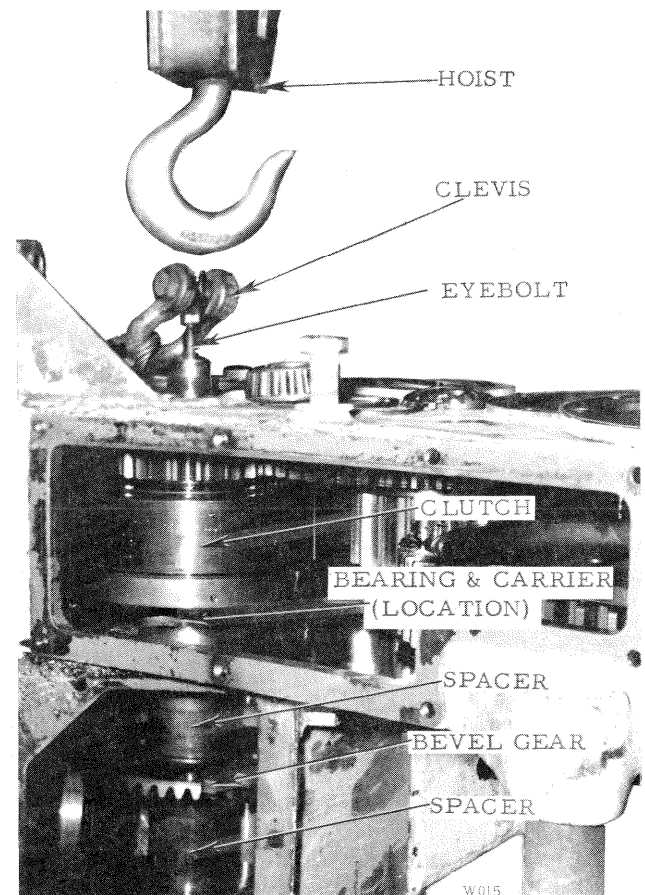

Figure 15
9. Screw a 5/8" UNF eyebolt (bolt with a washer welded on it) into the thread in the bevel gear shaft. Attach a hoist to the eyebolt, making sure both are aligned. Note the location of the spacers positioning the bevel gear. Fig. 15. Pull the bevel gear shaft straight up,